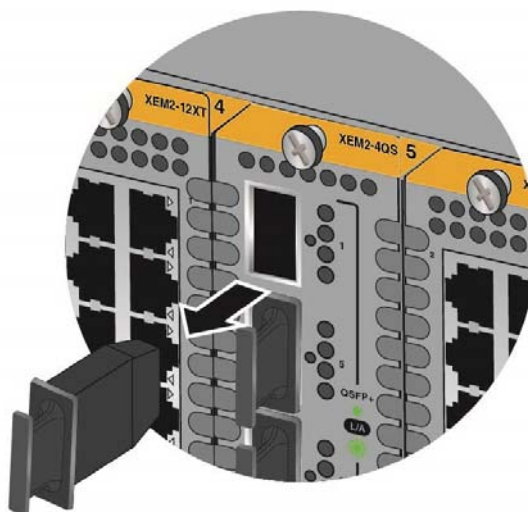

Figure 90. Removing the Dust Cover from a Slot on the AT-XEM2-4QS Line Card
1. Remove the dust cover from a QSFP+ slot. Refer to Figure 90 on page 126.
1. Remove the dust cover from a QSFP+ slot in the switch. Figure 90 shows the removal of the dust cover from slot 17.